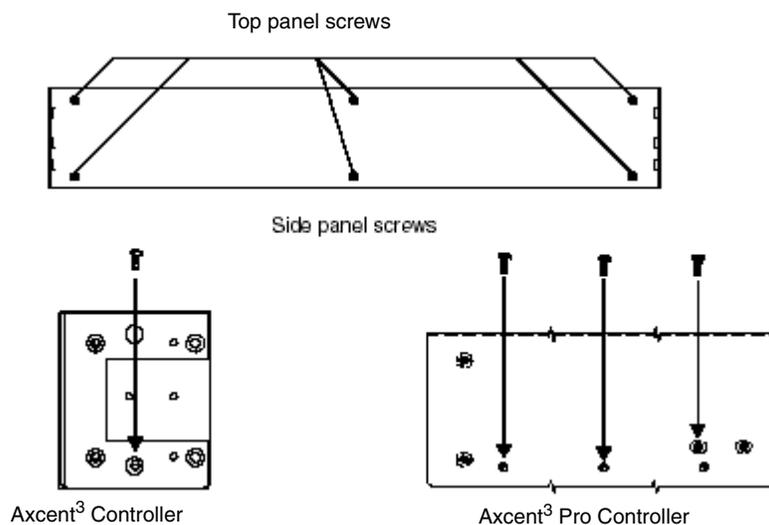

FIG. 11 Top and side panel screw locations
4. Remove the six Phillips-head screws from the top panel on the controller. Then, remove the screws from the left and right side of the Axcent³ and Axcent³ Pro controller as shown in FIG. 11.